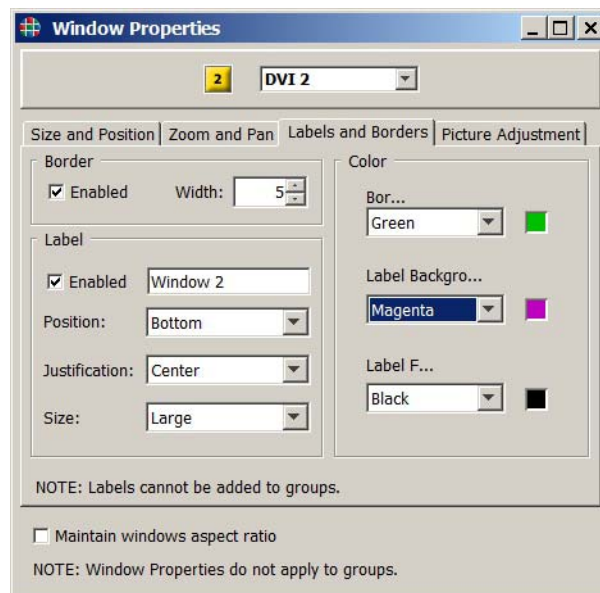

Figure 3-11 Labels and Borders Tab
1. On the **Windows Properties** page, select the **Labels and Borders** tab (Figure 3-11).